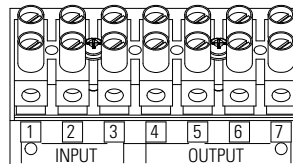

Figure 14. Terminal Block
9. Connect the input and ground wires to the terminal block according to Figure 14 and Table 1.
10. Connect the output and ground wires to the terminal block according to Figure 14 and Table 1.